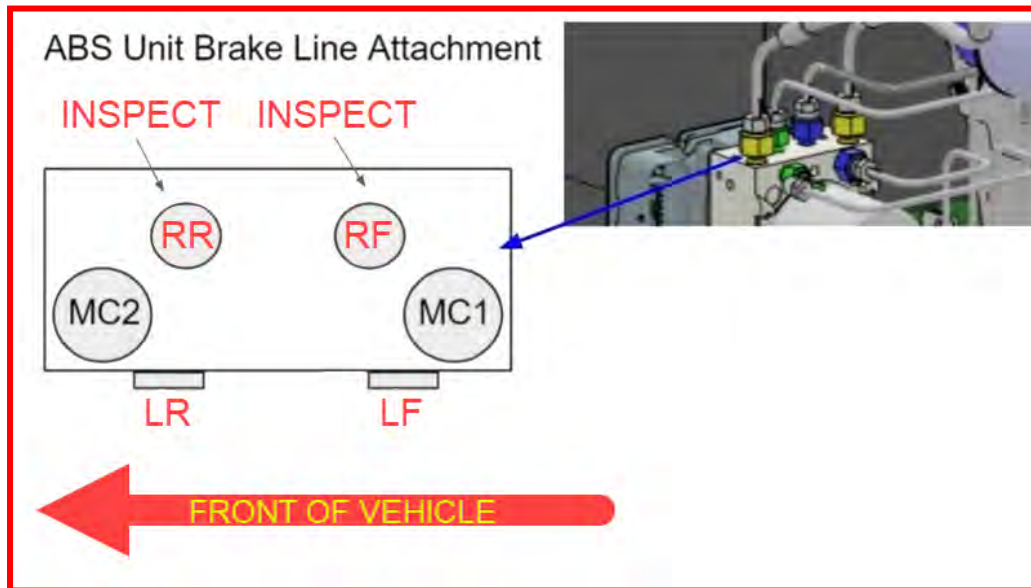

Figure 6 - ABS Assembly & Brake Line Locations
11. Remove the right rear (RR) brake line fitting from the ABS assembly as shown (Figure 6)